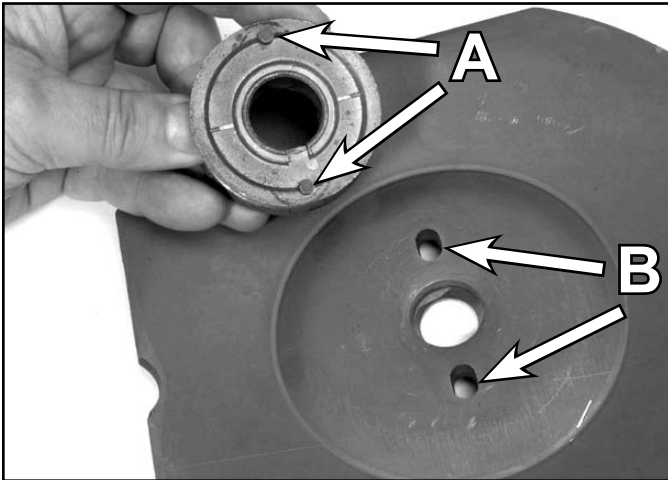

Fig 175
6. Install the BBC flywheel onto the crankshaft, making certain that the slots in the BBC flywheel align with the bumps on the bottom of the self-propel pulley (Fig. 175).